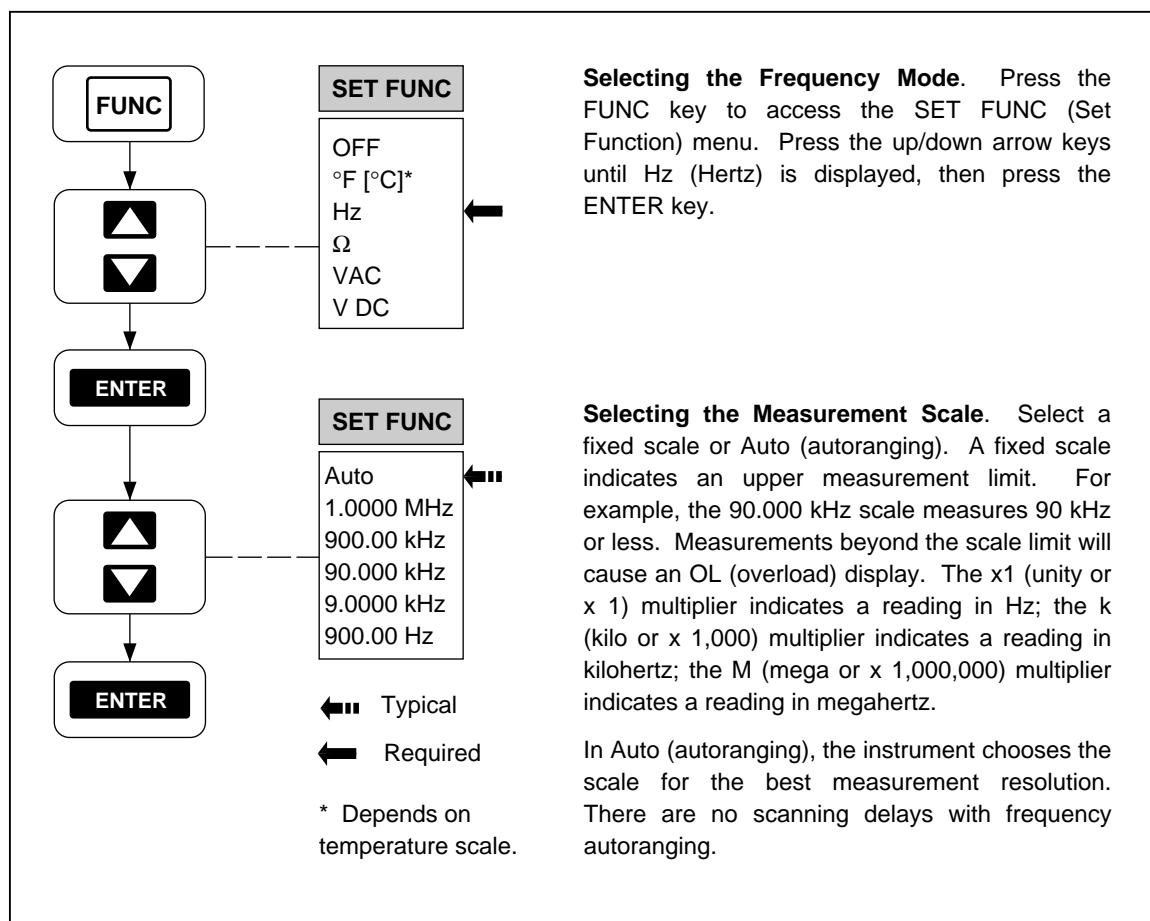

Figure 2-7. Configuring a Channel to Measure Frequency
- Configuring a Channel to Measure Frequency (Figure 2-7)
Perform the procedure in Figure 2-7 to configure a channel for measuring frequency. In preparation, the instrument must be in the inactive mode (not scanning or monitoring) and the desired channel must be selected (see Figure 2-3). To exit at any time (changes not saved), press the **CANCL** key.